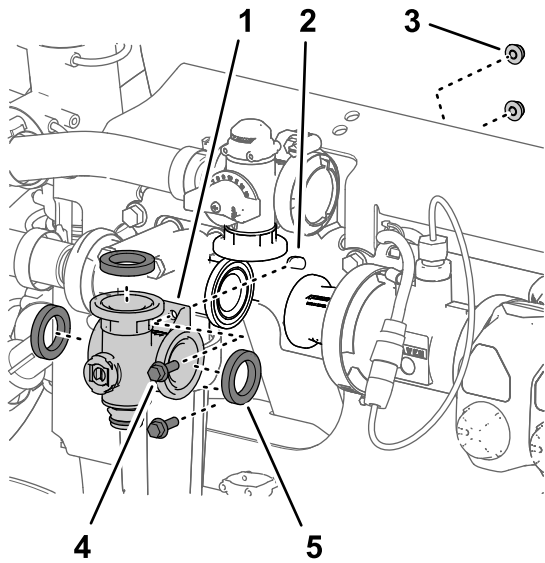

Figure 115
3. Remove the 2 flange-head bolts (1/4 x 3/4 inch) and 2 flange locknuts (1/4 inch) that secure the agitation-valve manifold to the valve support (Figure 115).
4. Remove the agitation-valve manifold and gaskets from the machine (Figure 115).